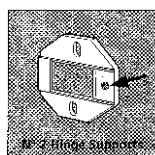

Fig. 1
- Mount the hinge supports onto the face of the machine, positioning the hole indicated by the arrow, in Fig.1, towards the inside of the face and using the type C screws.